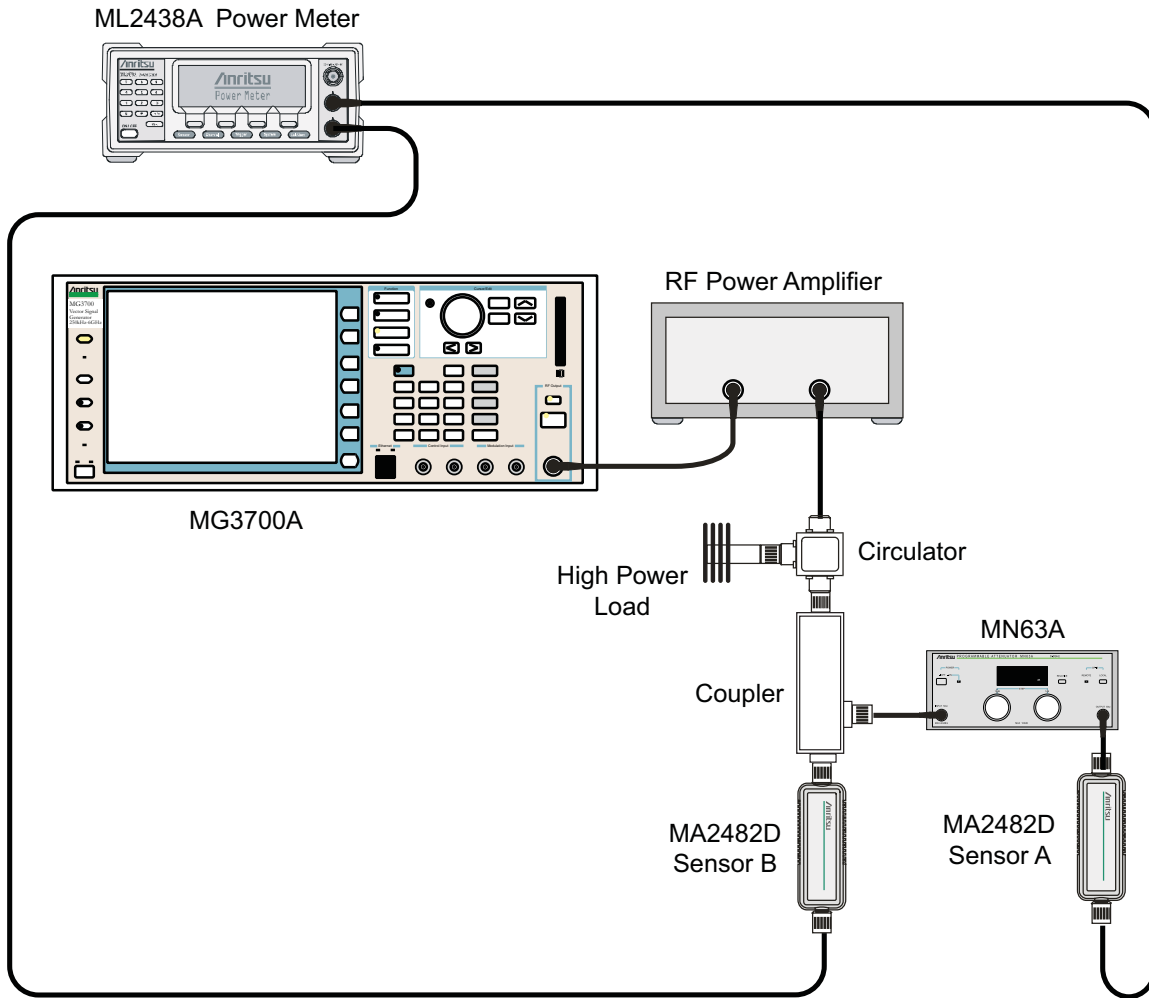

Figure 5-8. WCDMA Signal Analyzer Option Verification (Setup 1)
2. Connect the MG3700A, RF power amplifier, attenuator, power meter, and sensors as shown in Figure 5-8.
4. Press the **On/Off** key to turn on the MT821xE and wait until the measurement display appears then press the **Shift** key and press the **Mode** (9) key to activate the mode selection menu.
6. Press the **Shift** key, the **Preset** (1) key, and then the Preset submenu key.